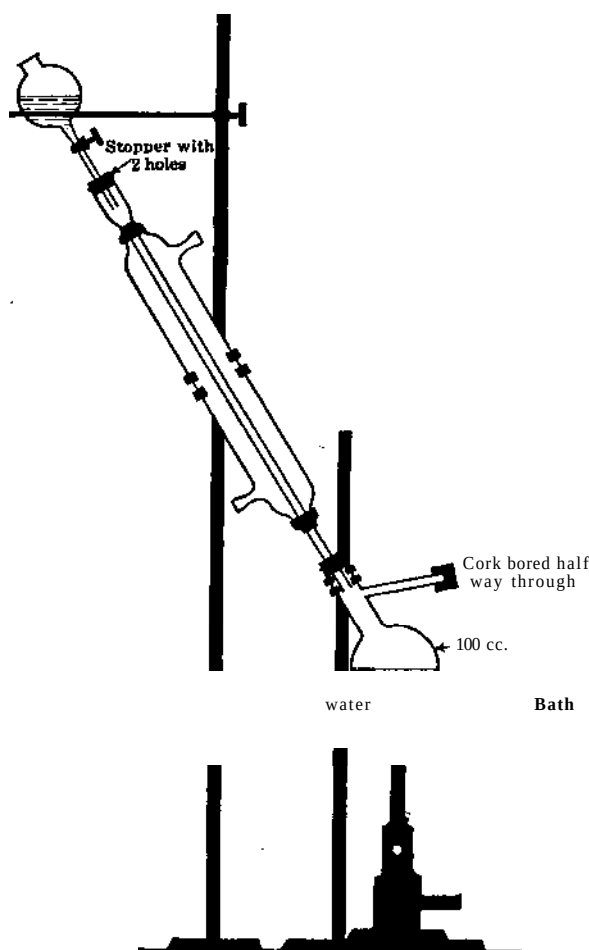

FIG. 52.
Introduce 35 g. of finely pulverized, fused sodium acetate into a dry distilling flask, the side-arm of which is stoppered. Attach a reflux condenser. Arrange the apparatus as shown in Fig. 52. Pour 25 cc.
5. Why is the apparatus in Fig. 52 set up in an oblique position?